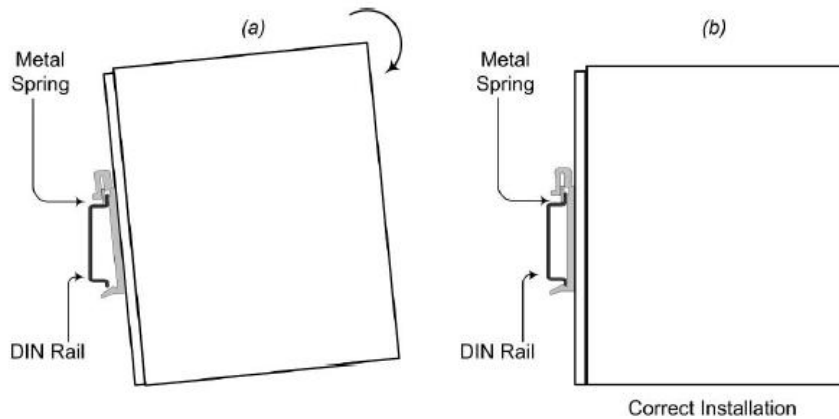

Figure 5: Industrial PoE Switch Mounting to DIN Rail
To mount the Industrial PoE Switch to the DIN rail, see Figure 5 and do the following:
1. Align and then position DIN-Rail-clip spring to the top of the DIN rail as shown in Figure 5, step (a).
2. Press DOWN on the Industrial PoE Switch and then IN to snap it into place on the DIN Rail. See Figure 5, step (b) below.